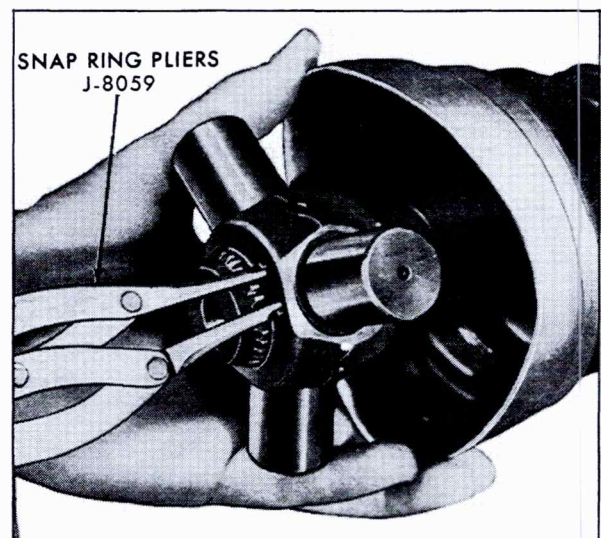

Fig. 3-68 Removing Spider Snap Ring
9. Wipe excess grease from end of axle shaft to gain access to snap ring and remove spider outer snap ring as shown in Fig. 3-68.